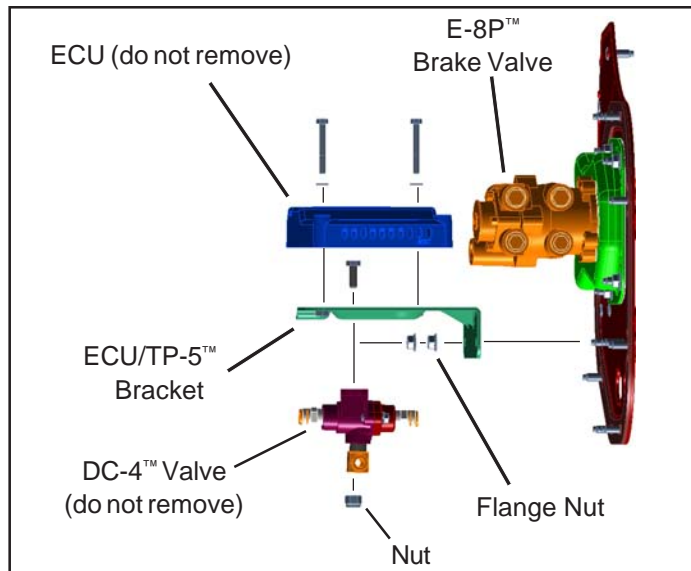

Figure 4 (Type B) Bracket with ECU and a DC-4™ Double Check Valve
4. If truck is equipped with a hand brake control, remove the PTC air lines from the DC-4™ valve mounted to the ECU/TP-5™ valve bracket. Refer to Figure 4.
5. Remove and retain the two 8mm flange nuts(2) that secure the ECU/TP-5™ bracket. Note: Three nuts are included in the kit as spare parts.